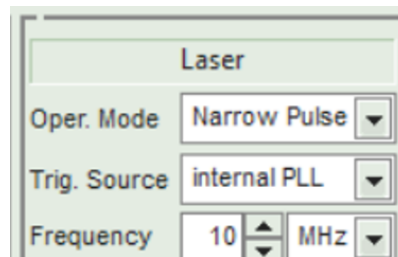

Figure 17: spin edit box "Frequency"
- Choose the option **internal PLL** to use the UNICO's internal clocks for triggering the picosecond and nanosecond pulses. Upon selecting this option, a spin edit box labeled **Frequency** appears, which allows setting the repetition rate from 1 kHz to 200 MHz or from 1 kHz to 100 MHz in case of ns pulses, see Fig. 17. The frequency unit (kHz or MHz) can be selected from the selection box next to it.